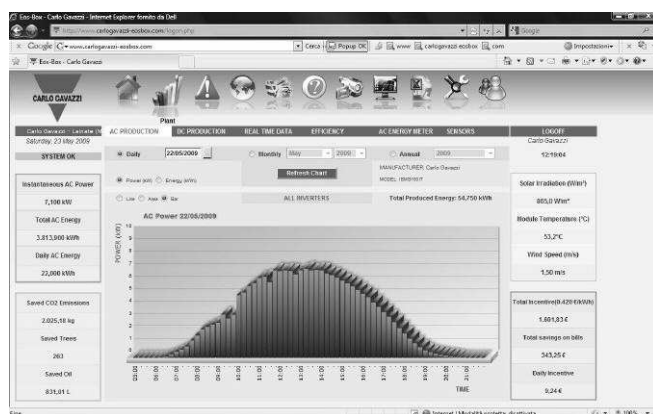

Fig. 5
- 1** AC production and then the following selections (Fig.5):